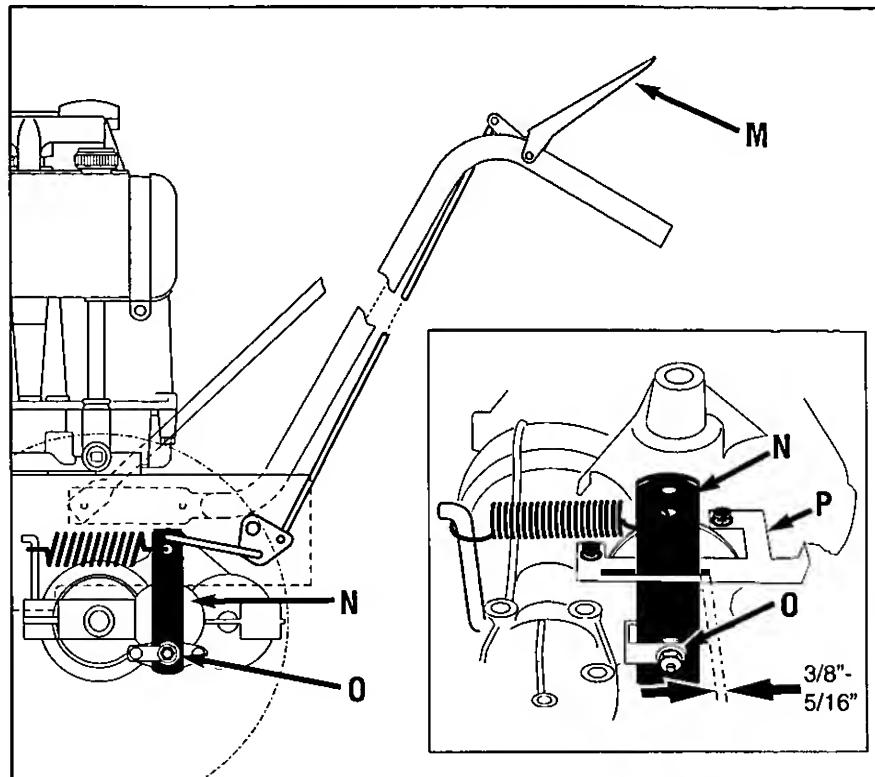

Figure 5-13: Wheel brake adjustment.
2. Disengage (release) the Operator Presence Control (M, Figure 5-13).
3. Slowly adjust at nut (O), if necessary, until the distance between the back of brake arm (N) and bracket (P) is $3/8"$ - $5/16"$. Use small adjustments (1/4 turn maximum). NOTE: It may be necessary to relieve spring tension when decreasing distance. To do so, have an assistant engage the Operator Presence Control while you adjust the nut.
3. Hold down Operator Presence Control (M, Figure 5-13) and push unit forward and backward. Unit should move freely. If not, continue with Step 4.